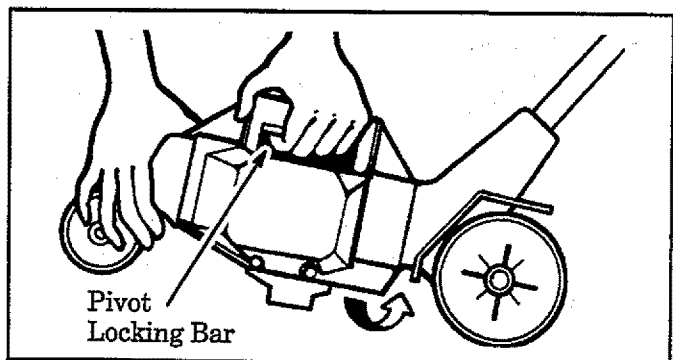

Figure 5
1. Squeeze the pivot locking bar and pivot the motor to the desired position. Figure 5. Release the pivot locking bar, making sure the motor locks into position.
2. Pivot the front wheel position to correspond to the rear wheel position by squeezing the pivot locking bar and rotating the front wheel assembly. Figure 5. Make sure the front wheel assembly locks into position.